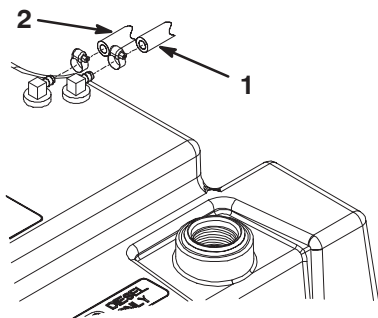

Figure 5
1. Loosen the hose clamps and disconnect the fuel hoses from the fuel fittings on the fuel tank and the engine (Fig. 5). Discard the hoses but retain the hose clamps.
3. Route the inner fuel tank return hose to the engine fitting and secure with one of the hose clamps previously removed (Fig. 5).
4. Route the outer fuel tank supply hose to the new fuel filter and secure it to the inlet fitting with one of the hose clamps previously removed (Fig. 5).